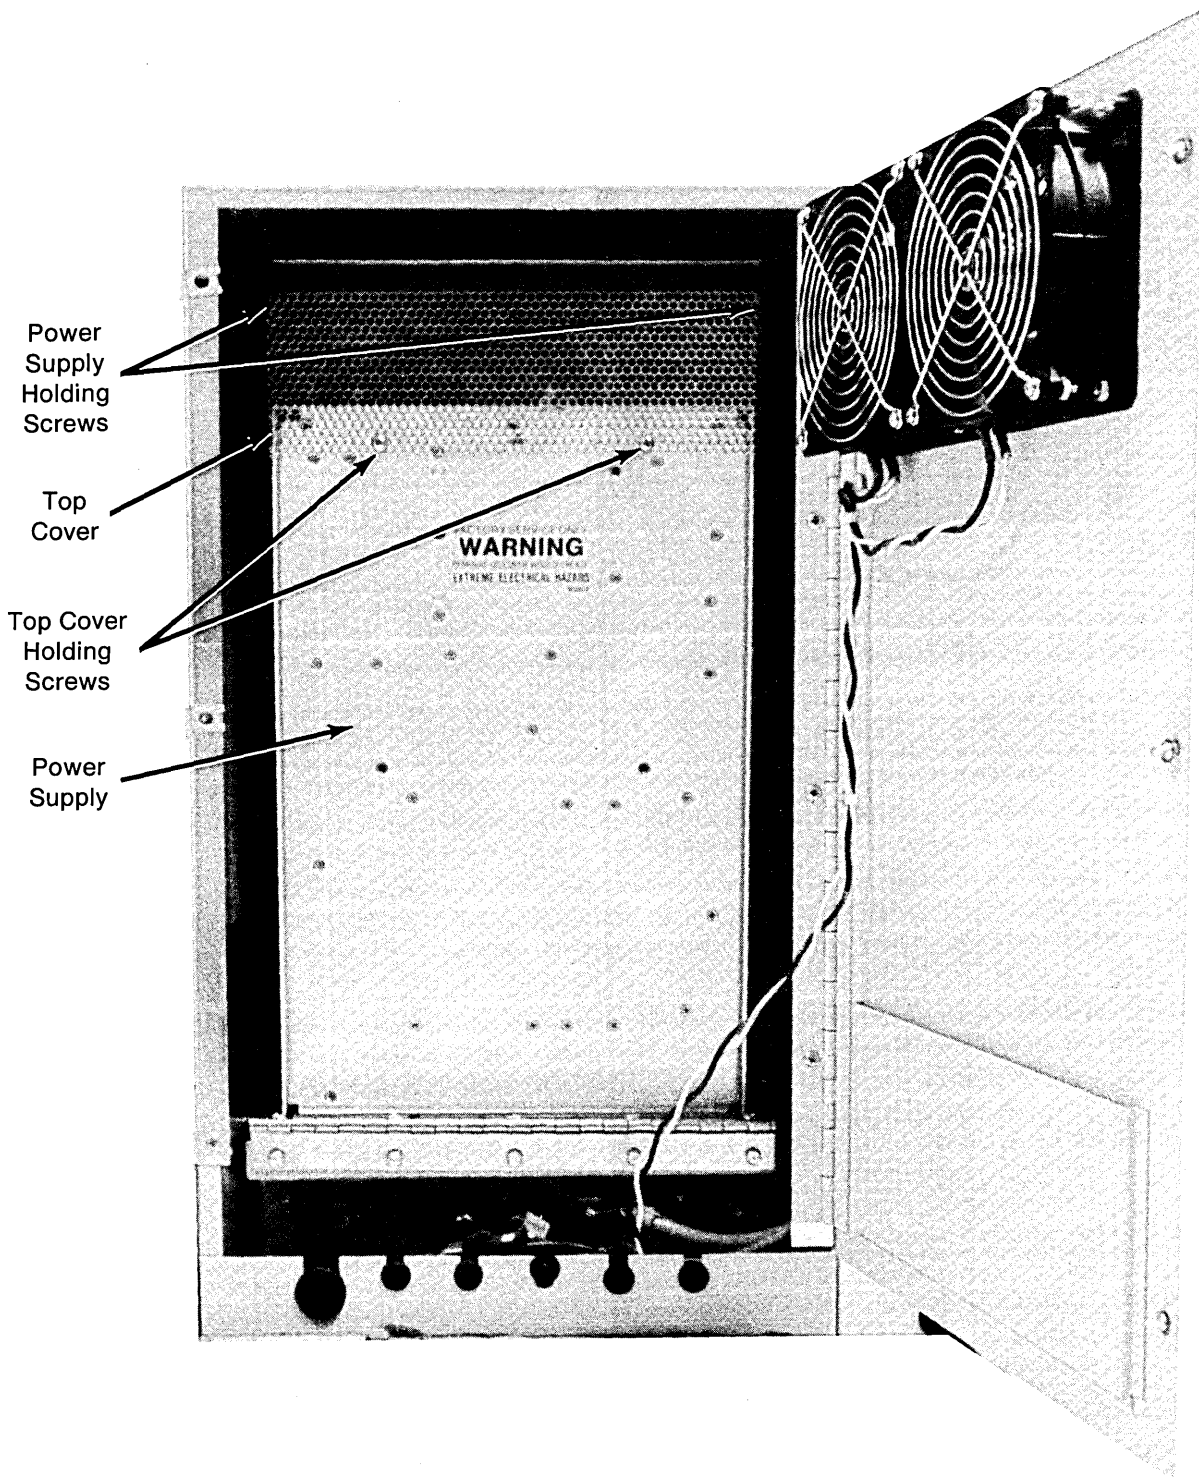

Figure 5-2. Power Supply Top Cover Removal
3. Remove screws holding power supply top cover (figure 5-2), and remove top cover.